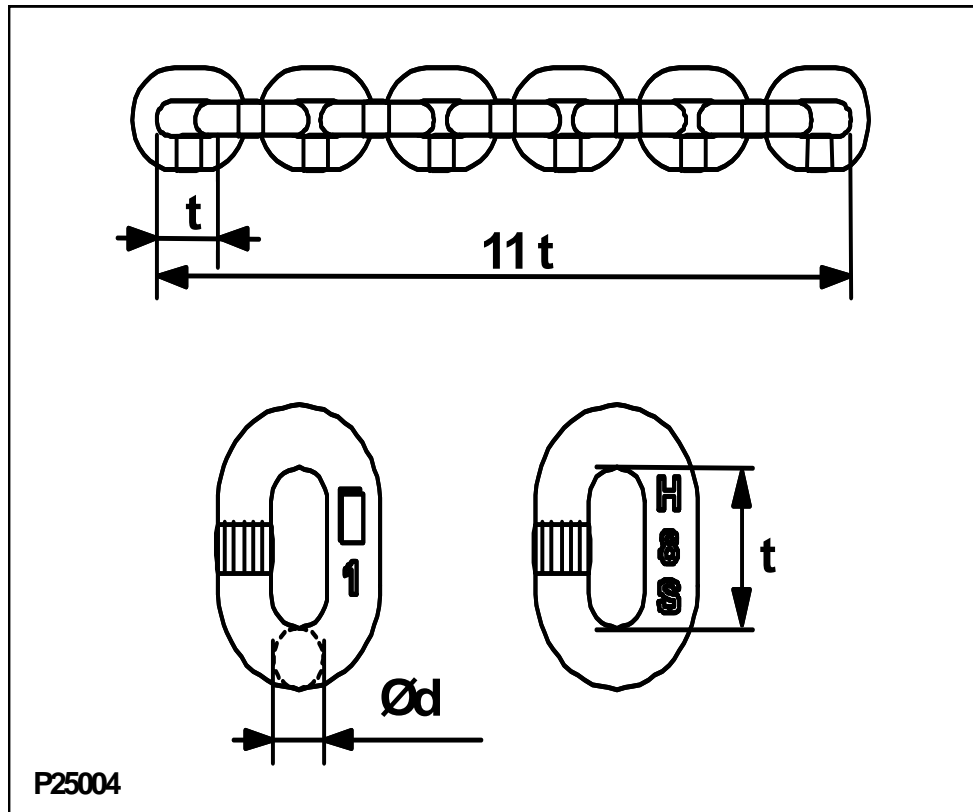

FIGURE 5.5
Measure the following chain dimensions at several points on chain: (Figure 5.5)
5.6 Load Chain Specifications (see Figure 5.5)